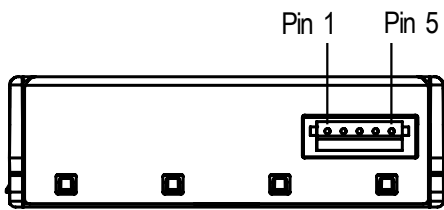

Figure 3 The communication interface connector (type: S5B-ZR-SM4A-TF(LF)(SN)) is located at the side of the sensor opposite to the air outlet.
Figure 3: Typical consistency tolerance for PM2.5 in % of mass concentration at $25\text{ }^\circ\text{C}$ between $100\text{-}1000\text{ }\mu\text{g}/\text{m}^3$.
The sensor is equipped with a serial communication interface. The interface connector S5B-ZR-SM4A-TF(LF)(SN) is located at the side of the sensor opposite to the air inlet/outlet. Corresponding male plug is ZHR-5 from JST Sales America Inc. In Figure 3 a description of the pin layout is given.